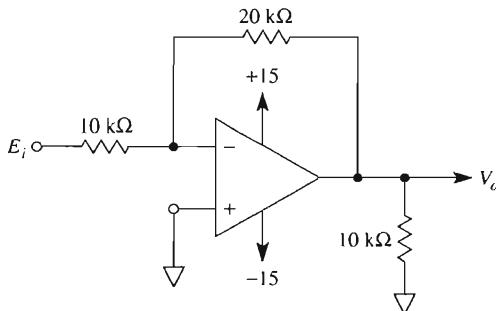

FIGURE P3-4
- 3-4. Identify the circuit in Fig. P3-4.
- 3-5. Calculate V_o and the op amp's output current in Fig. P3-4 if E_i equals (a) +5 V; (b) -2 V. For each situation, state if the op amp sources or sinks current.
- 3-6. Calculate E_i in Fig. P3-4 if V_o equals (a) +5 V; (b) -2 V.
- 3-7. Let E_i be a triangle wave with a frequency of 100 Hz and a peak value of 5 V in Fig. P3-4.